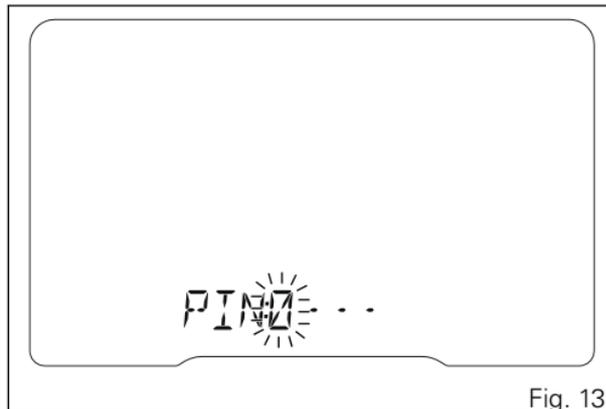

Fig. 13
- if the PIN CODE function is active, the PIN CODE function page (Fig. 13) is displayed, allowing the rider to enter the override code (see "Restoring motorcycle operation via the PIN CODE" page 210).